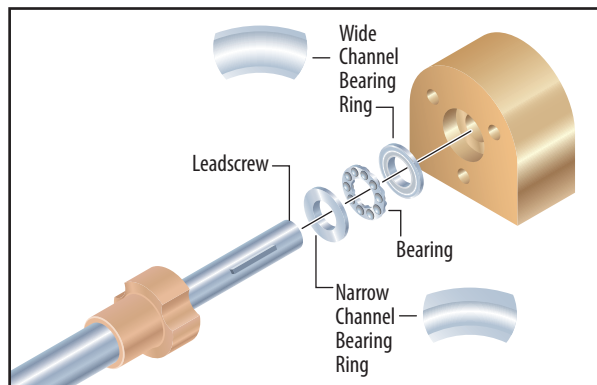

Figure 7
- 10 Pull to slide the Piston Assembly from the rear of the Bearing Block, and then remove the Bearing Ring and Bearing Washer from the front of the Leadscrew (**figure 7**).